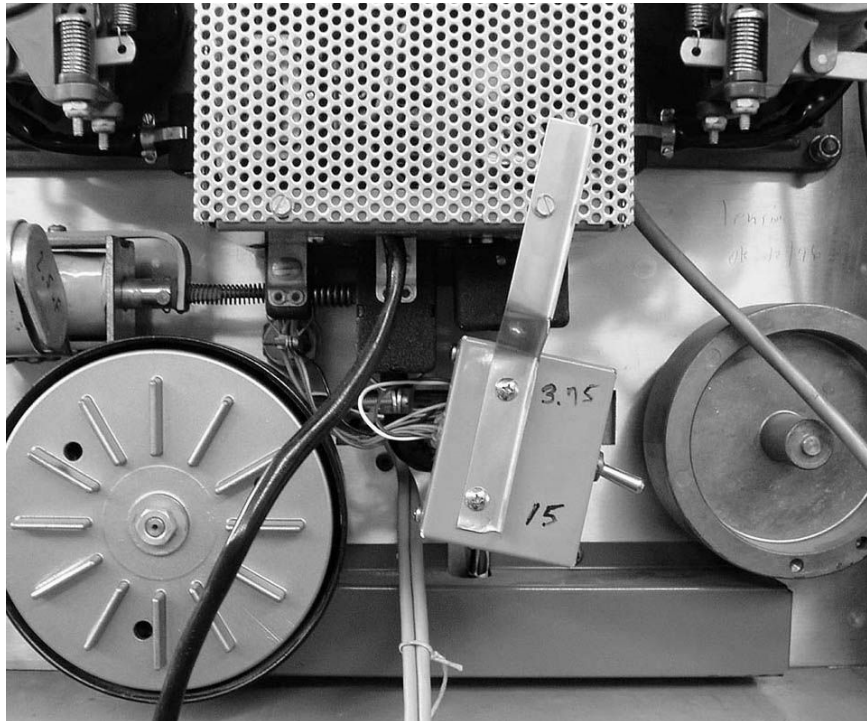

Figure 2. Rear view of modified transport
- 4 Prepare bracket and attach to mini-box cover (see figure 2).
- 4 Attach cover to mini-box and mount bracket to the transport relay box cover (see figure 2).